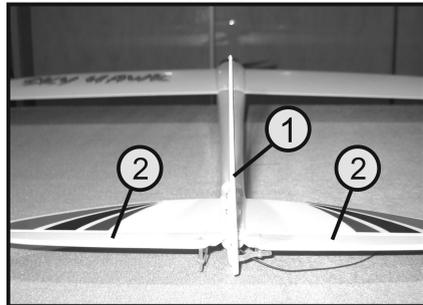

Figure 13
- After you have checked resp. adjusted the correct position of the servo levers, you can now suspend the fork heads (1) of the control rods each in the center boring of the rudder horns (2).
The rudder (3) may neither deflect to the left or the right and the elevator unit (4) may not point upwards or downwards (also see figure 13).
- If the control lever for the rudder and elevator (see figure 2, pos. 4), and the associated trim levers (see figure 2, pos. 3 and 5) are in the middle positions, the rudder (see figure 13, pos. 1) and elevator (see figure 13, pos. 2) are to be aligned precisely centred as well.